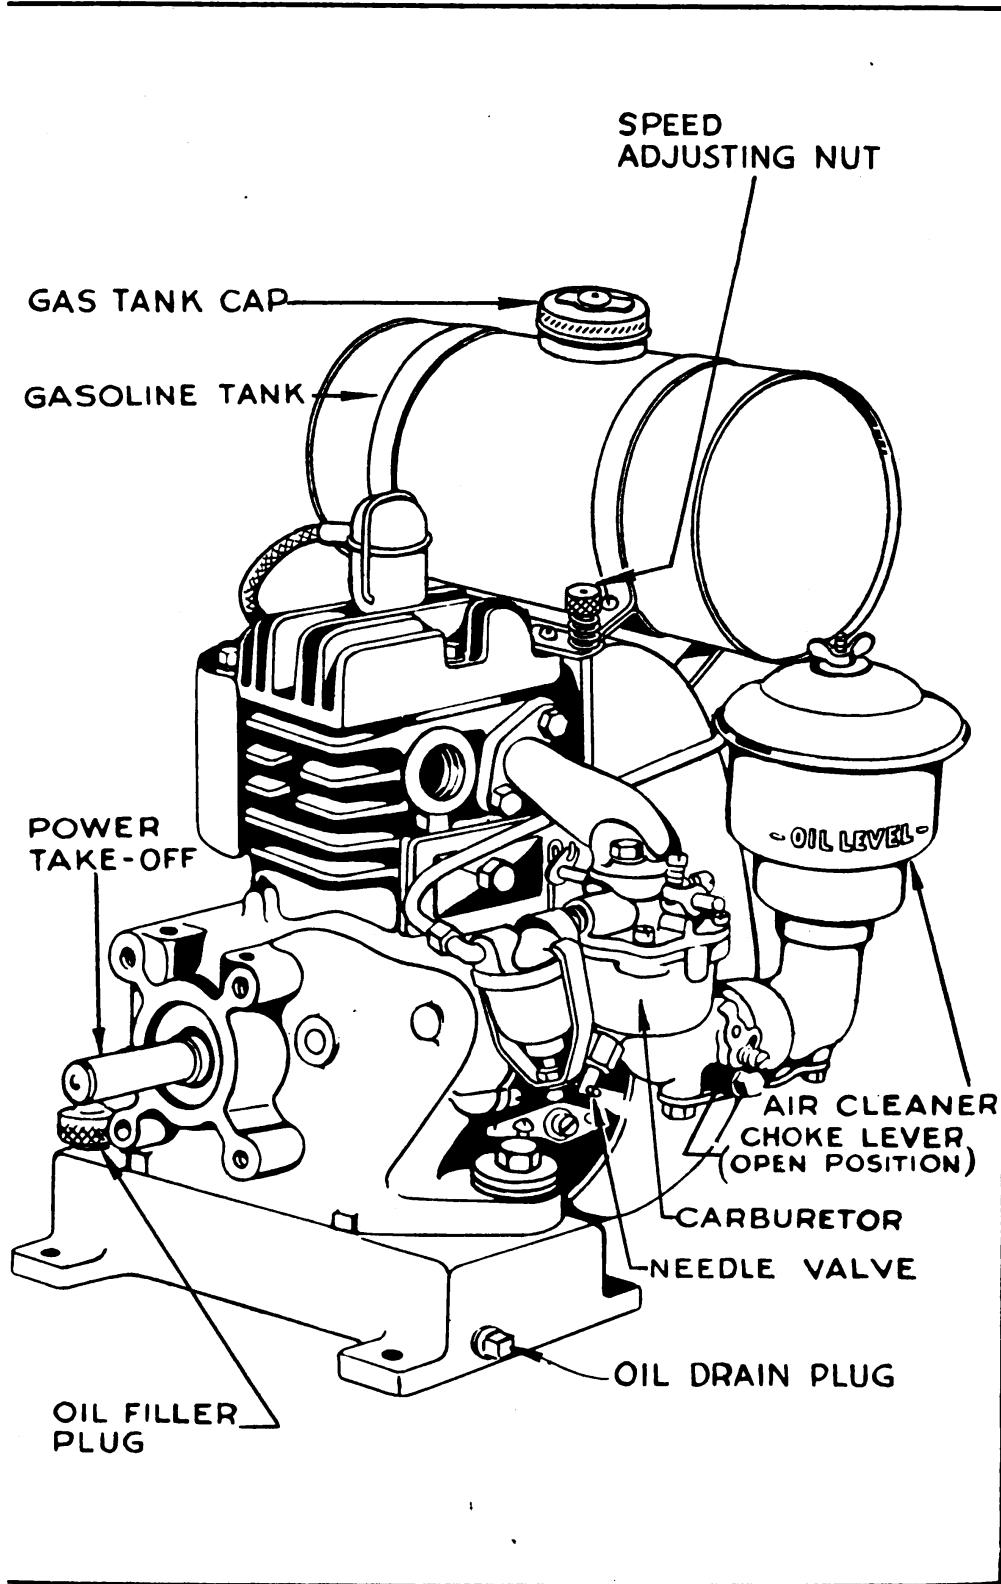
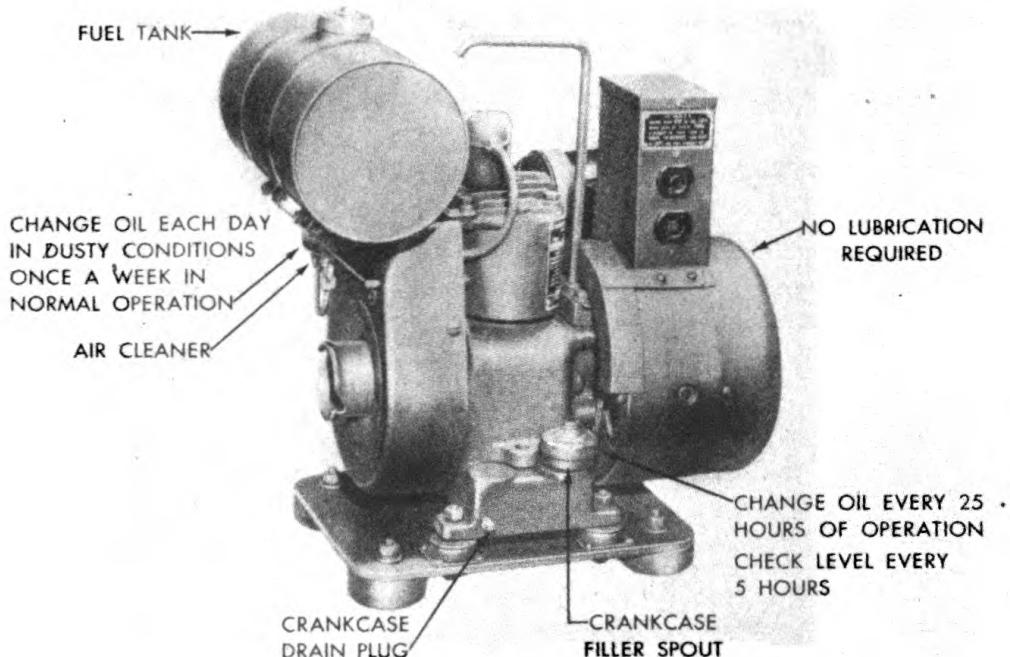

Figure 2.—Engine for Power Unit PE-77-E
Figure 3.—Lubrication
c. Engine.—The engine is a single-cylinder, four-cycle, L-head, air-cooled, rope-starting gasoline engine (fig. 2).
6. PREPARATION FOR USE.—*a.* Remove the oil filler cap which is painted blue and located on the top of the engine base (fig. 2), and fill the crankcase of the engine with a high-grade lubricating oil (fig. 3 for proper oil).
7. OPERATION.—*a. Starting.*—(1) Open gasoline shut-off valve (fig. 2) on top of the gasoline tank (at the bottom of the gasoline tank on PE-77-E) by turning valve to the left and allowing the carburetor float chamber to fill up. Completely close carburetor choke by turning choke lever to the left (fig. 2). If engine is hot it may be necessary to close choke.
(2) Insert the knotted end of the starter rope in the notch of the starter pulley and wind the rope clockwise around the pulley. Crank the engine a few times to prime it. After the engine has been primed, open choke about half-way and repeat the cranking operation to start the engine. As the engine warms up gradually, open choke by turning the choke lever (fig. 2) toward the right until the engine operates smoothly with the choke wide open.
(3) If it is necessary to keep the choke partially closed for several minutes before the engine runs smoothly, the carburetor is set too lean and the needle valve located in the lower part of the carburetor (fig. 2, 8 or 9) should be opened slightly by turning to the left (counter clockwise).
13. LUBRICATION.—*a. General.*—Correct lubrication of the engine is important. Lubrication data must be observed. The chart shown in figure 3 gives the proper oil to use at various temperatures and lubrication points. Lubrication of the generator is not required.
b. Crankcase.—(1) Check the oil level in the crankcase every 4 hours of service or every gasoline refill period. Add sufficient oil to bring the level up even with the top of the (blue) oil filler cap opening.